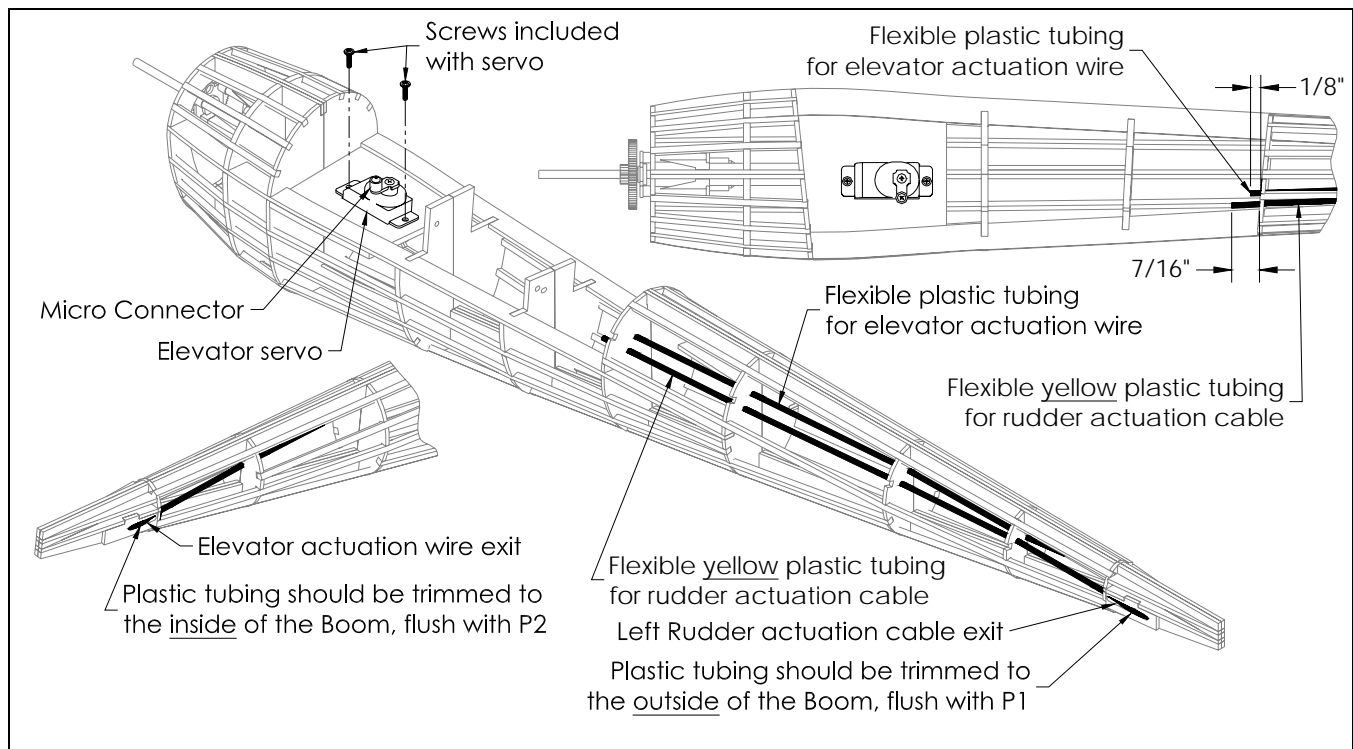

Figure 21
- ❑ Install the flexible plastic tubing in the left boom as shown in Figure 21.
- ❑ Install the elevator servo with the mounting screws included with the servo. Note the orientation shown in Figure 21. The servo arm should be trimmed/modified to the shape matching the arm shown in Figure 21.
- ❑ Install the Micro Connector to the servo arm as illustrated in Figure 21.